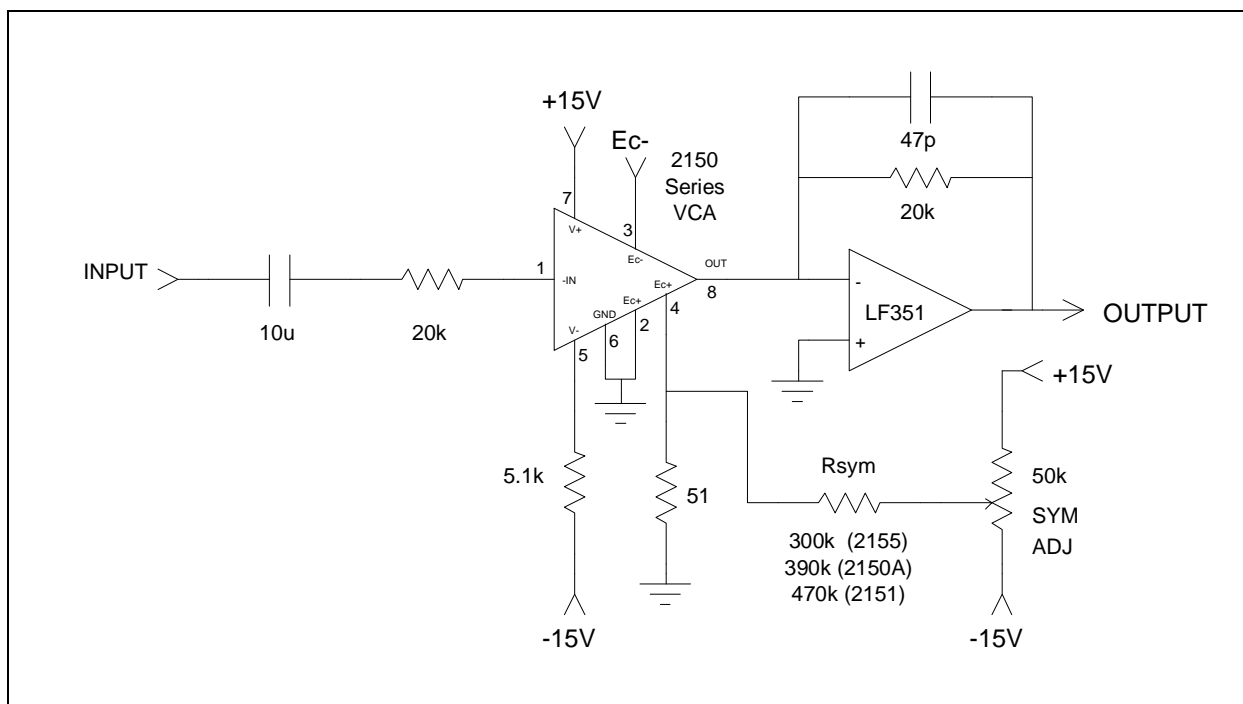
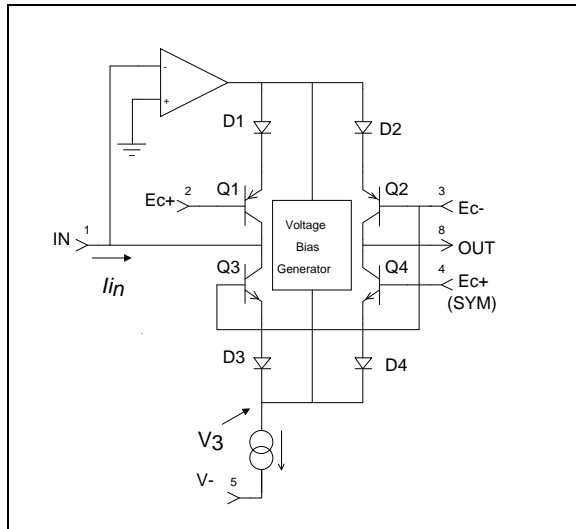
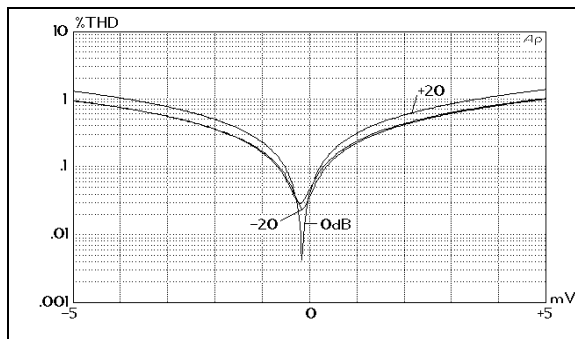
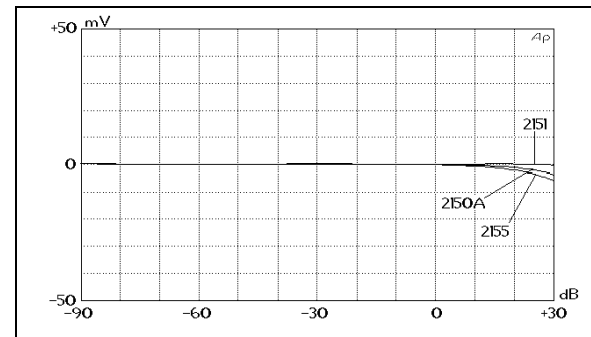

Figure 3. Typical Application Circuit
Figure 6. Simplified Internal Circuit Diagram
Figure 8. Typical THD Versus Symmetry Voltage
Figure 9. DC Offset Vs. Gain, After Symmetry Adjustment
2. Unless otherwise noted, T_A = 25°C, V_{CC} = +15V, V_{EE} = -15V. Test circuit is as shown in Figure 3. SYMADJ is adjusted for minimum THD @ V_{in} = 1 V, 1 kHz, 0 dB gain.
Figure 6 presents a considerably simplified internal circuit diagram of the IC. The ac input signal current flows in pin 1, the input pin. The internal op amp works to maintain pin 1 at a virtual ground potential by driving the emitters of Q1 and (through the *Voltage Bias Generator*) Q3. For positive input currents (I_{in} defined as flowing into pin 1), the op amp drives the emitter of Q1 negative, turning off its collector current, while simultaneously driving the emitter of Q3 nega-
In typical applications (see Figure 3, Page 3), pin 4 is connected to a voltage source at ground or nearly ground potential. Pin 8 is connected to a virtual ground (usually the inverting input of an op amp with negative feedback around it). With pin 4 near ground, and pin 8 at virtual ground, the voltage at the cathodes of D3 and D4 will cause an exponentially-related current to flow in D4 and Q4, and out via pin 8. A similar equation governs this behavior:
A quiescent bias current in the core transistors is established by the *Voltage Bias Generator* shown in Figure 6. This current acts like crossover bias in the output stage of a complementary class AB power amplifier, smoothing the transition between turning on the top (PNP) pair and the bottom (NPN) pair of transistors in the core. This lowers distortion greatly at some cost to noise performance, as the current noise of the core transistors (which run at approximately 20 μA) is the dominant noise source in the 2150 Series VCAs.
The monolithic construction of the devices assures relatively good matching between the paired transistors, but even small V_{BE} mismatches can cause unacceptable asymmetries in the output. For this reason, the bases of Q1 and Q4 are brought out separately to pin 2 and pin 4, respectively. This allows a small static voltage differential to be applied to the two bases. The applied voltage must be set to equal the sum of the V_{BE} mismatches around the core (*which varies from sample to sample*). Figure 3 (Page 3) includes a typical circuit to apply this symmetry voltage. R_{SYM} controls primarily even-order harmonic distortion, and is usually adjusted for minimum THD at the output. Figure 8 plots THD vs. the voltage between pins 2 and 4 (the two E_{C+} ports) for various gain settings of a typical part.
vent such dc terms, ac input coupling is strongly recommended. A plot of typical output offset voltage versus gain for the circuit of Figure 3 is shown in Figure 9. (The LF351's offset was adjusted to 0 V for this plot.)
The size of the current source at the bottom of the core (Figure 6, Page 4) is programmed externally via I_{SET} , which is normally determined by a resistor from pin 5 to V_- . The voltage at pin 5 is typically -2.7 V. I_{SET} divides into two portions: approximately 400 μ A is used for internal biasing, and the rest is available for the current source at the bottom of the core. I_{SET} should therefore be 400 μ A larger than the total of the peak input and output signal currents.
The input pin (pin 1) is a virtual ground with negative feedback provided internally (see Figure 6, Page 4). The input resistor (shown as 20 k Ω in Figure 3, Page 3) should be scaled to convert the available ac input voltage to a current within the linear range of the device. (Peak input currents should be kept under 1 mA for best distortion performance.) An additional consideration is stability: the internal op amp is intended for operation with source impedances of less than 30 k Ω at high frequencies. For most audio applications, this will present no problem.
The output pin (pin 8) is intended to be connected to a virtual ground node, so that current flowing in it may be converted to a voltage (see Figures 3, 14, & 15). Choose the external op amp for good audio performance. The feedback resistor should be chosen based on the desired current-to-voltage conversion constant. Since the input resistor determines the voltage-to-current conversion at the input, the familiar ratio of R_f/R_i for an inverting op amp will determine the overall voltage gain when the VCA IC is set for 0 dB current gain. Since the VCA performs best at settings near unity gain, use the input and feedback resistors to provide design-center gain or loss, if necessary.
symmetry voltage ($<\pm 2.5$ mV) to correct for V_{BE} mismatches within the VCA IC. For this purpose, the 2150 series devices were designed for optimum performance with an impedance of approximately 50Ω at pin 4. A trim pot is used to adjust the voltage between pin 4 and pin 2 as shown in Figure 3, Page 3. For supply voltages other than shown, scale R_{SYM} to provide the required adjustment range.